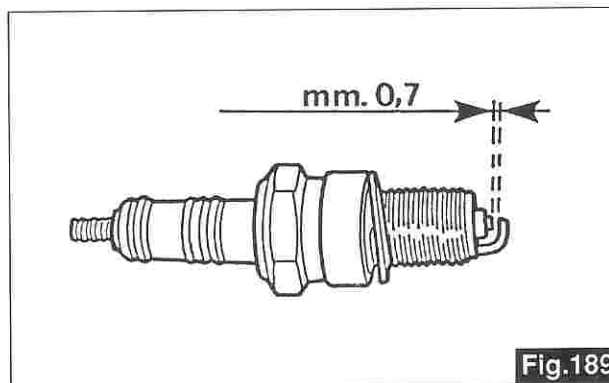

Fig.189
19.5 CANDELE (fig. 189)
19.5 SPARK PLUGS (fig. 189)